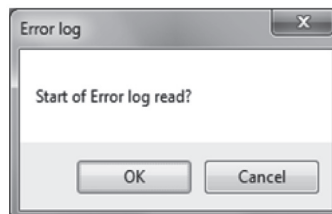

Fig.155
- ③ Click "OK" to reload the most recent log. Then a message box (Fig. 155) will be displayed.